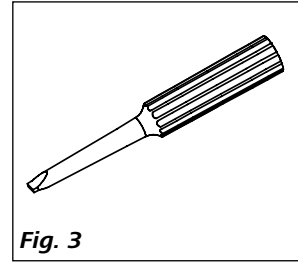

Fig. 3
- Screwdriver (use for safety circuit) see Fig. 3